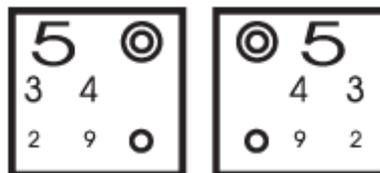

Fig.40
(1) Use red and green chart to determine precise spherical lens value (see Fig.40). Ask the patient which one is seen clearest, red or green chart. If the green one is seen better, it indicates myopia is increased (hyperopia decreased). The reduce spherical lens value by 0.25D. -1.75 → -1.50.